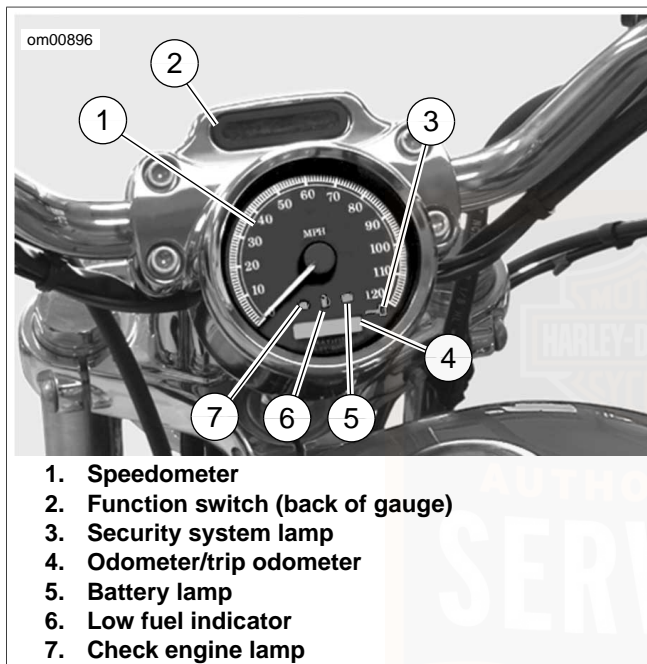

Figure 8. Speedometer/Odometer: XL 1200C Sportster 1200 Custom
See Figure 8, Figure 9, and Figure 10. The speedometer registers miles per hour (U.S. models) or kilometers per hour (international models) of forward speed. The speedometer also provides the following selectable functions:
1. See Figure 8, Figure 9, and Figure 10. Pressing the function switch (on back of speedometer) with the ignition switch in any position will activate the odometer reading and time. Time and mileage or kilometers may be checked
2. See Figure 8, Figure 9, and Figure 10. Press and release function switch (on back of speedometer) until time (hour and minutes) is displayed. Press and hold the function switch for five seconds or until 12HR begins to blink in the speedometer display window. Release the button.